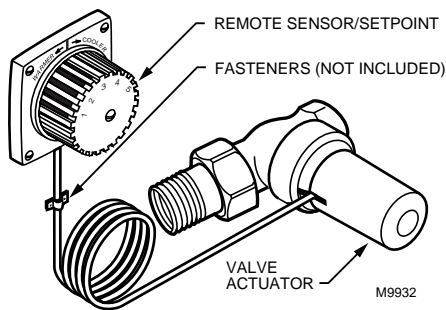

Fig. 6. Remote mounting T5086B Thermostatic Actuator head.
The T5086B sensor and setpoint are remote-mounted. To mount the V5086 Valve and T5086B Thermostatic Actuator, see Fig. 6 and use the following procedure:
4. Use fasteners as shown in Fig. 6 to secure the capillary from the remote sensor/setpoint location to the valve body location. The capillary loop shown in Fig. 6 provides strain relief; the capillary loop must be free to move.